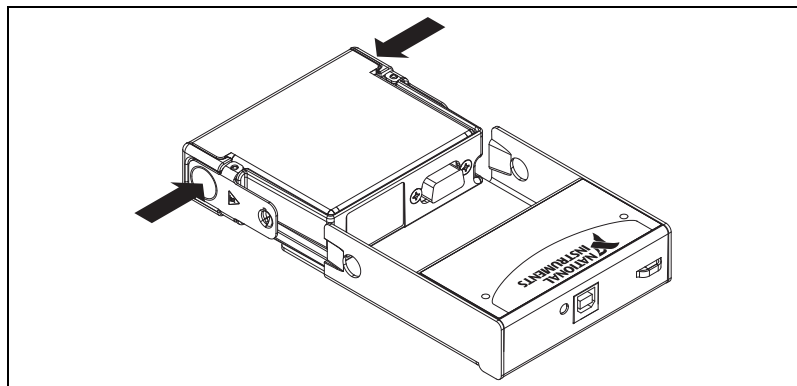

Figure 5. Module Installation
The NI 9213 module and NI USB-9162 carrier are packaged separately. Refer to Figure 5, while completing the following assembly steps:
3. Align the I/O module with the carrier, as shown in Figure 5.